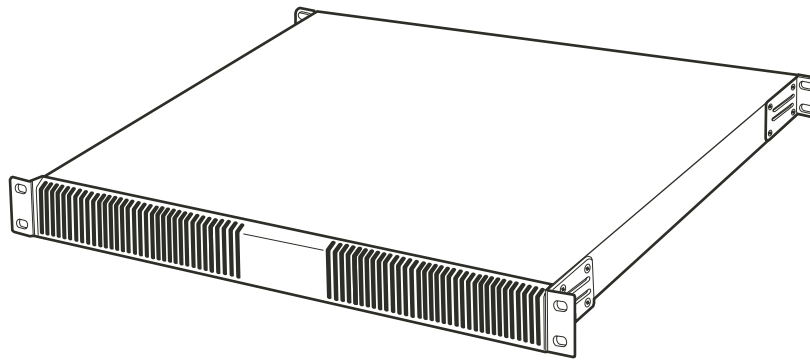

Figure 1. CM9780-MXB Mounting Baffle
1. Install the CM9780-MXB mounting baffle first (refer to Figure 1).